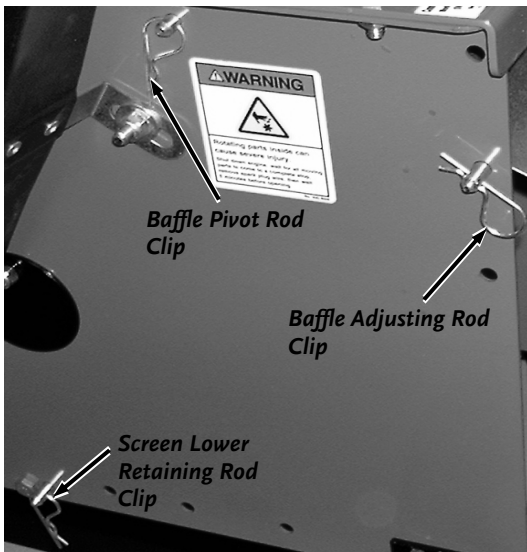

Figure 12
1. Remove the Baffle Plate by removing the Hair Spring Clip on the Adjusting Rod and the Pivot Rod and then removing the two (2) Rods (**Figure 12**).
3. Remove the Screen Lower Hair Spring Clip from the Retaining Rod and remove the Rod (**Figure 12**).
3. Remove the Baffle Plate (see **Figure 12** on page 16).